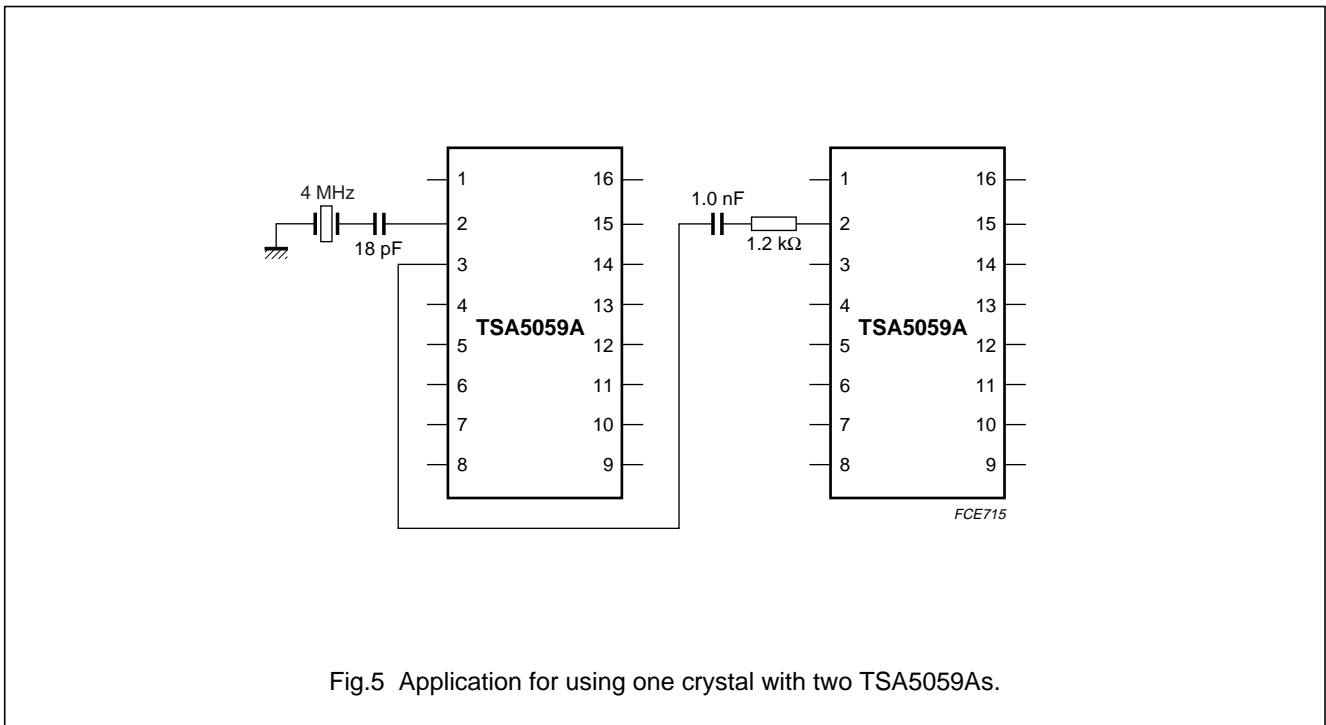

Fig.5 Application for using one crystal with two TSA5059As.
- To drive pin XTAL from the pin XT/COMP of another TSA5059A, couple the signal using a capacitor of 1 nF (to remove the DC level) in series with an 1.2 kΩ resistor (see Fig.5).
It is also possible to feed pin XTAL with an external signal between 2 and 20 MHz, coming from an external oscillator or from the pin XT/COMP of another TSA5059A, when more than one synthesizer is present in the same application. Then the application given in Fig.5 should be used.